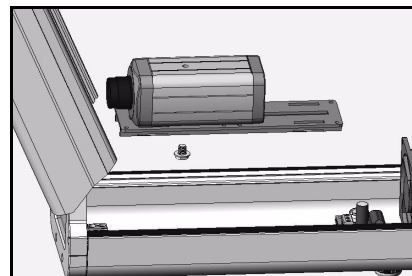

Figure 2.0 Place camera in enclosure
2. Place the camera and base in the enclosure. Use the included screws to fix the camera in place (see Figure 2.0).